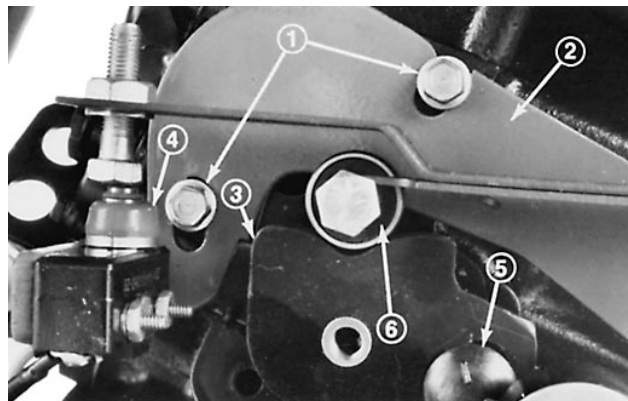

Figure 70
4. With the engine OFF, loosen the nut on the carriage bolt and allow the bearing to locate the cam (Fig. 70). Carefully tighten the nut on the carriage bolt.
5. Loosen the screws to allow the neutral device bracket to move; but not freely (Fig. 70). Adjust the neutral device bracket so that $40\pm$ in-lb of torque on the control lever just starts to rotate the lever. Tighten the screws.